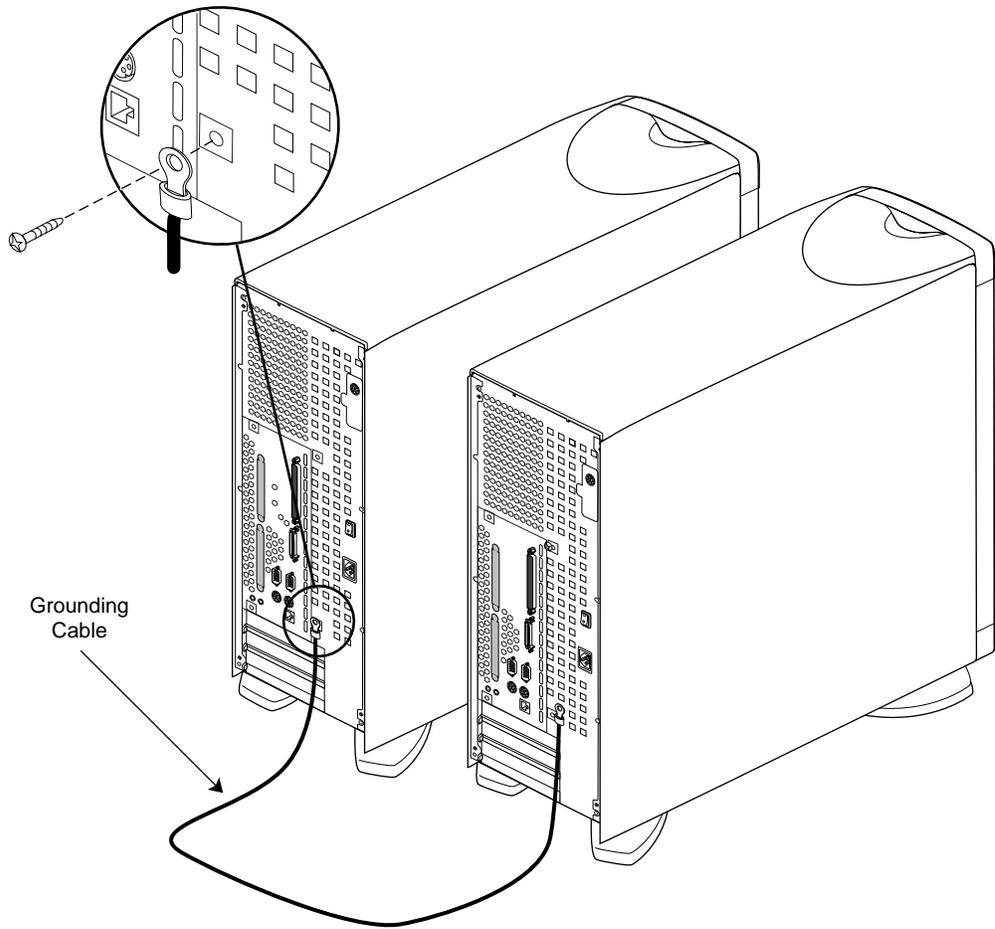

Figure 2-19 Attaching the Grounding Cable
6. Connect the grounding cable between the two chassis, as shown in Figure 2-19. Do this first, before you connect the CrayLink Interconnect cable.